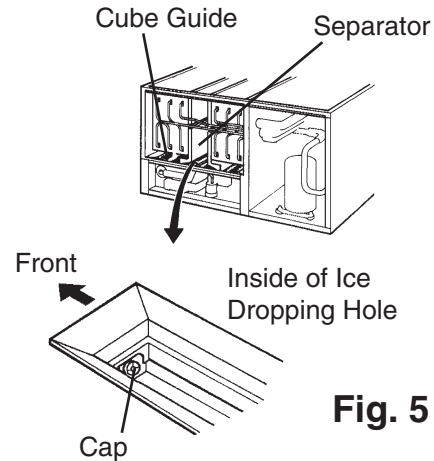

Fig. 5
- 5) Remove the cap located on the front bottom part of the ice dropping hole. Drain the water tank. See Fig. 5.